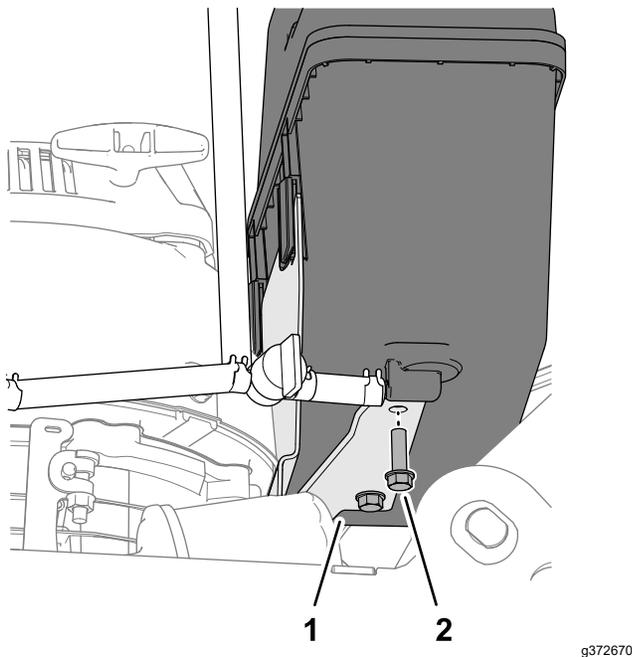

Figure 40
2. Secure the tank to the flange of the tank-mounting bracket with the 2 flange-head bolts (Figure 40).